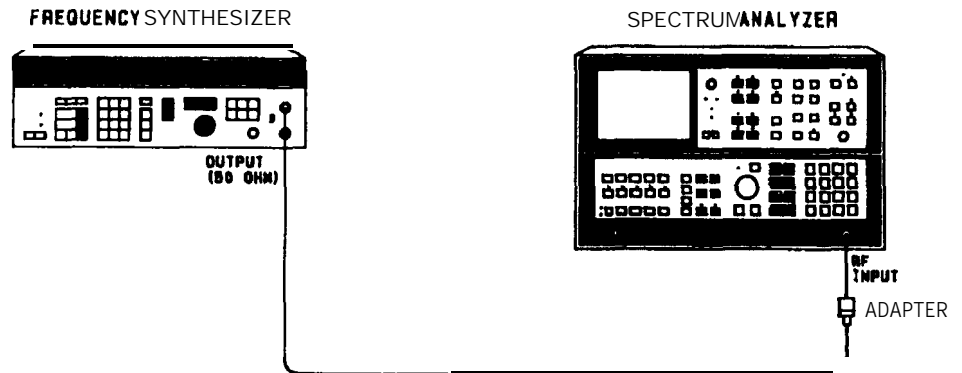

Figure 2-9. IF Gain Uncertainty Test Setup
6. Connect the equipment as shown in Figure 2-9.